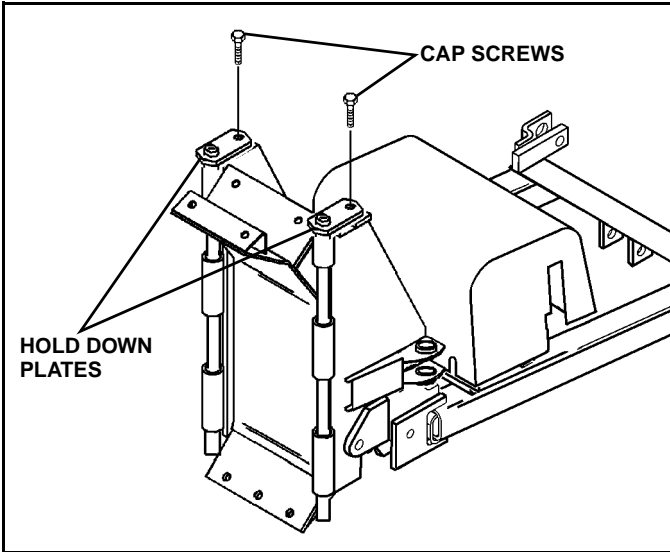

Figure 1-2
2. Remove the cap screws from the hold down plates at the top of each of the two wing pivot shafts and then remove the pivot shafts from the center blade assembly. (See Figure 1-2).